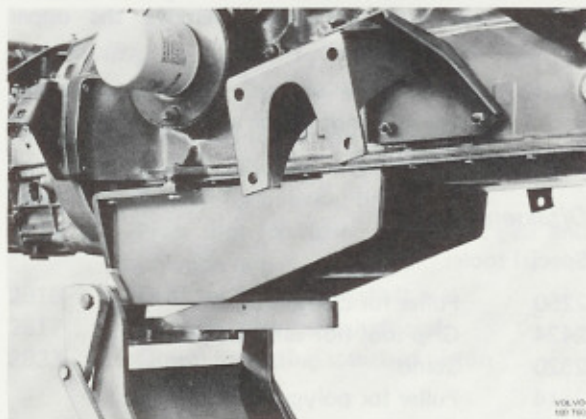

Fig. 21-4. Fixing the engine in fixture 9916
- b. Place engine fixture 9916 on workshop lift 9809. Run the jack in under the engine, jack up and screw tight the fixture, see Fig. 21-4.
- Remove the engine from fixture 2820 and place it in engine fixture 9916, Fig. 21-4. Fit the oil trap, fuel pump and left engine mount.
- Raise the engine and screw tight the engine mounts (4).